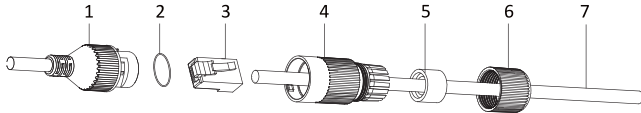

Figure 6: Assembling the waterproof sheath of the LAN connector;
4. Push the cable in the mounting base and screw it on using the four supplied screws. Camera orientation is marked by an arrow and a "TOP" label. If you want to use a grommet in the side of the mounting base, push the data cable through it first. Slide the connector sheath, sealing sleeve and a locking nut on the cable, see Figure 6. The last step is to take a crimping tool and press the RJ-45 connector onto the data cable.
6. Connect the RJ-45 connector to the camera. Fix the connection by a waterproof sheath with a bayonet closure (included in the accessory pack) and tighten the locking nut, see Figure 6. If the nearest router or switch used does not support the compatible PoE function (power over Ethernet), connect the camera via the power connector to 12 V DC / 500 mA external power supply.